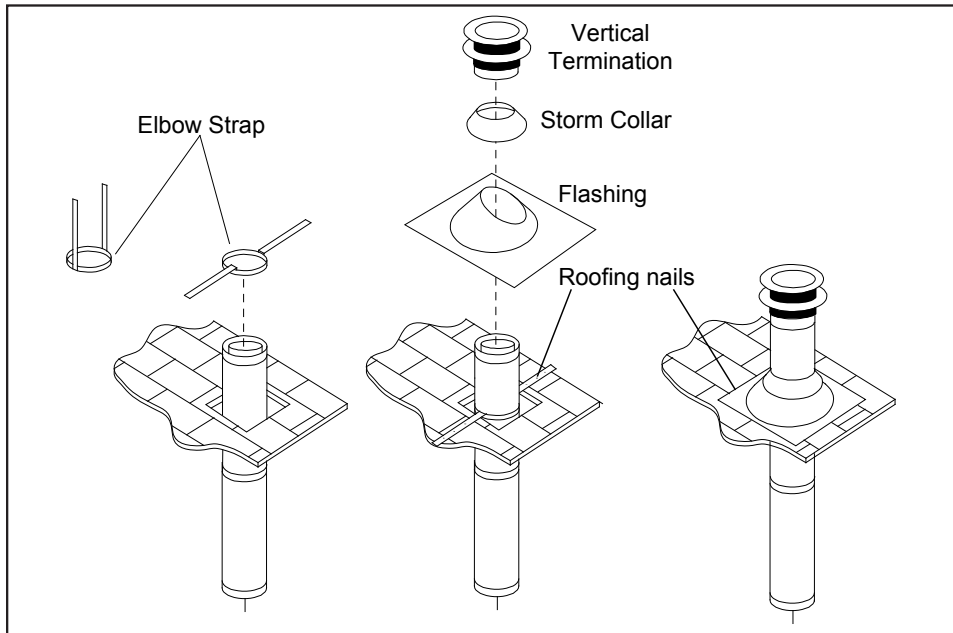

Figure 30: Vertical Vent Termination Installation.
elbow strap down to the roof level, as shown in Figure 30. Tighten the clamp around the pipe section. Use a level to make sure the pipe is truly vertical. With roofing nails, secure the support straps to the roof. Seal the nail holes with non-hardening mastic. Trim the excess length of the support straps that extend out beyond the edge of the flashing.
- Slip the flashing over the pipe section protruding through the roof. Secure the base of the flashing to the roof with roofing nails. Use a non-hardening sealant between the uphill edge of the flashing and the roof. Insure the roofing material overlaps the top edge of the flashing as shown in Figure 30. Verify that you have at least the minimum clearance to combustibles at the roof line.
- Slip the storm collar over the pipe, and push it down to the top of the roof flashing as shown in Figure 30. Use the non-hardening sealant around the joint between the pipe and the storm collar.